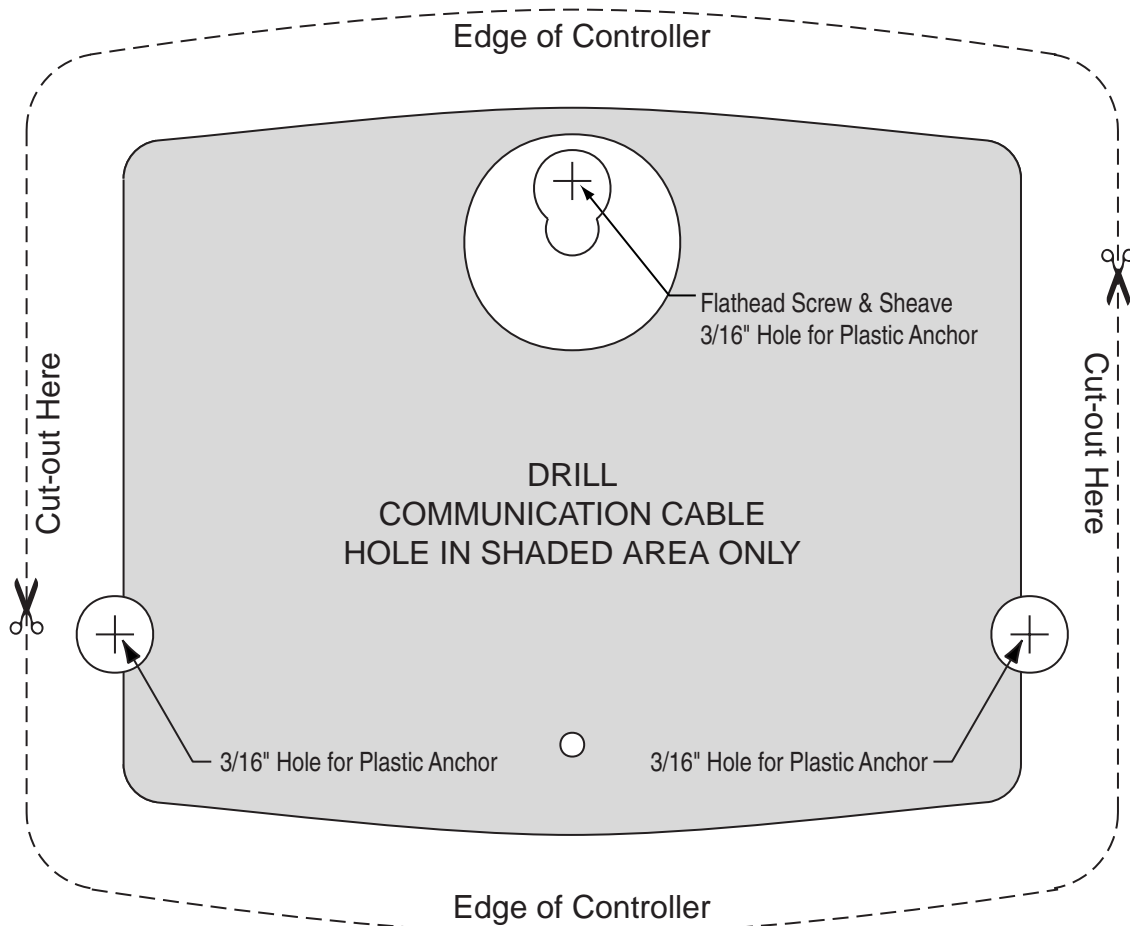

Figure 5.
1. Four holes are required to mount the unit: three for mounting screws, and one for the communication cable. Using the template below (Figure 5), mark the wall where the mounting holes will be made. If screws will not be screwed into studs drill $\frac{3}{16}$ in. holes and insert wall anchors (included) as required. Drill fourth hole large enough for cable to feed through (approx. $\frac{1}{4}$ in.) within the bounds of the template but outside the areas indicated.